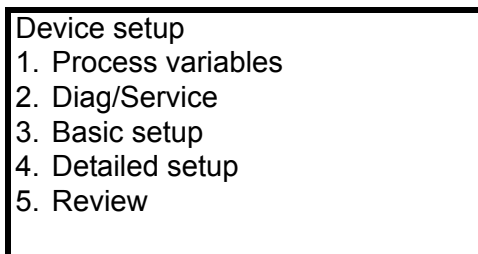

Figure 8 Device setup menu
1. Select “1. Device setup” from online menu 1 (Figure 3). The device setup menu will then be displayed. (Figure 8)
1. Select “4. Detailed setup” from the device setup menu. (Figure 8)